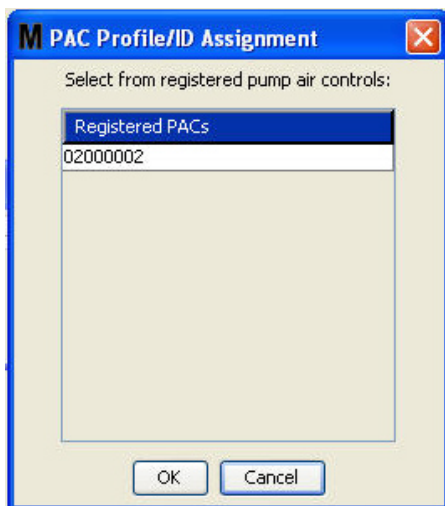

FIG. 114
4. After you have named the PAC, click the link button. The Profile/ID Assignment screen shown in FIG. 114 displays. From the list of registered Pump Air Controls, select a PAC from the list. Click OK to close the screen and save the changes. A complete description of the PAC registration procedure is provided in the Pump Air Control instruction manual. Instructions are also provided in the How to Register a Pump Air Control section in Appendix A of this manual on page 161.